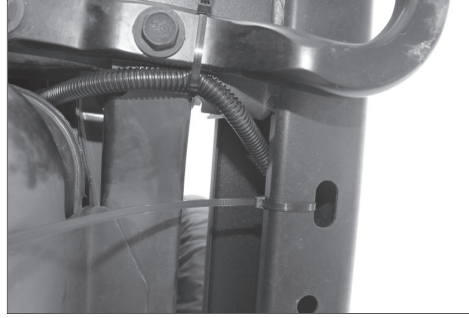

Figure 3
6. Route the portion of harness with the T-Connector ends containing Green wire to the Passenger side along the rear frame rail shown in **Figure 3**. Secure with cable ties.